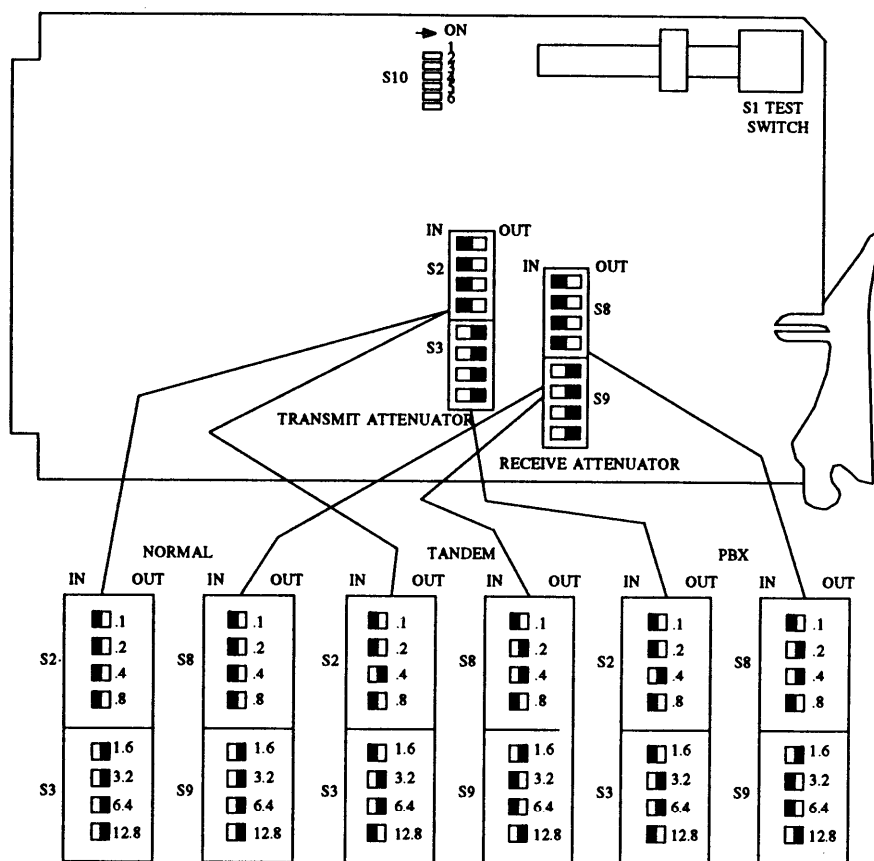

Figure 31-5. 30003-002 4-wire E&M Channel Unit
- For No. 30003-002 (figure 31-5), insert a 1004-Hz signal at the proper system level into the channel. Connect a dB meter (600 ohm bridged) to J 1. Set switches S2 and S3 as required to obtain a meter reading of +.84.
- a. For No. 30003-002 (figure 31-5), connect a dB meter (600 ohm bridged) to J2. From a distant end transmitter, transmit a 1004-Hz signal at the proper system level. Set the switches on S8 and S9 to achieve the proper system level.